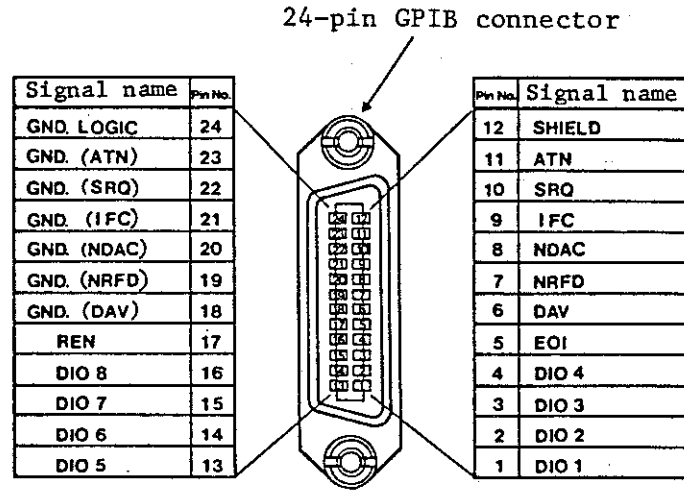

Figure 3-2 GPIB Connector Pin Assignment
- Connector : 24-pin GP-IB connector (See Figure 3-2)